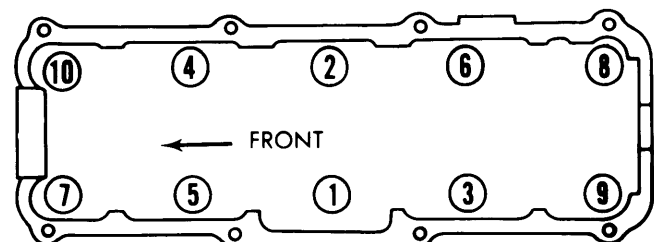

Fig. 1 Cylinder Head Tightening Sequence
2) Remove all other components necessary to gain clearance around camshaft cover. Remove cover. Remove the head bolts in reverse order shown in Fig. 1. When installing, ensure head gasket is positioned with "TOP" or "OBEN" mark facing upward. Tighten head bolts to "cold" setting using Fig. 1 for tightening sequence reference.